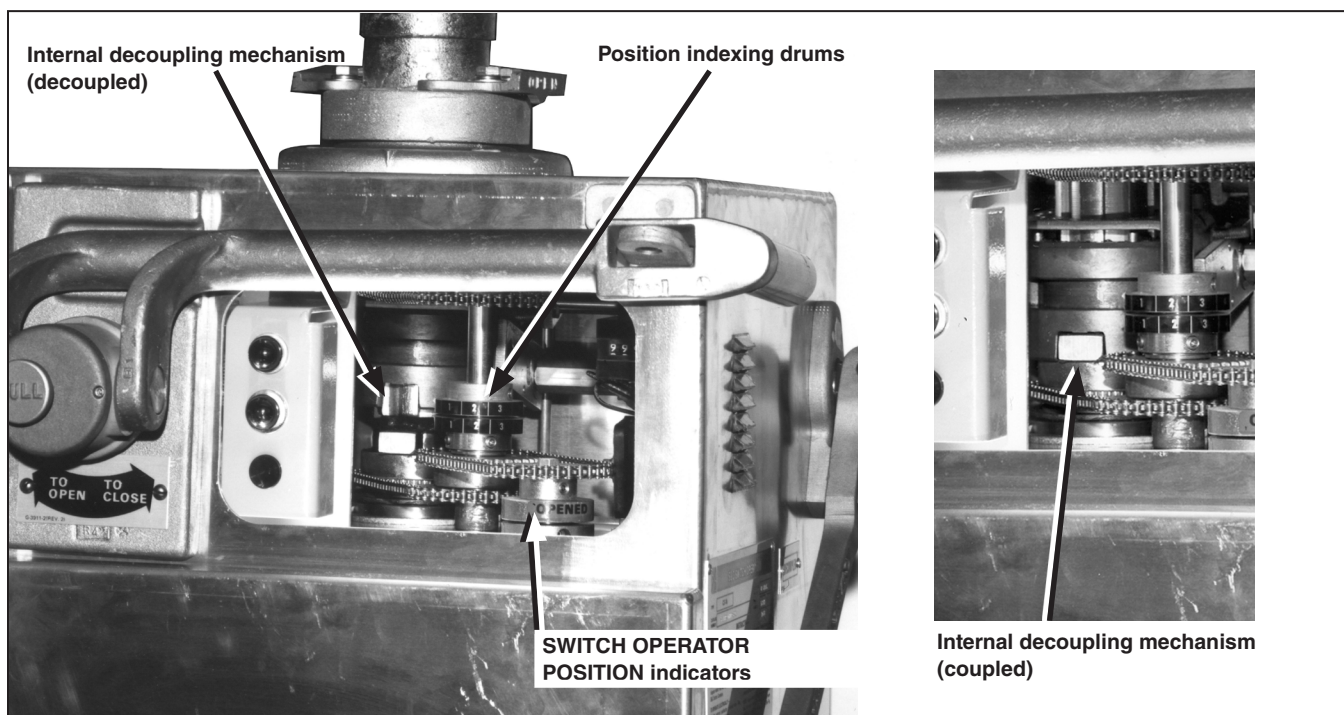

Figure 9. Views of the switch operator through the observation window.
Visual inspection, through the observation window, will verify whether the internal decoupling mechanism is in the **Coupled** or **Decoupled** position. See Figure 9 on page 16.
- STEP 1.** Manually operate the switch operator to bring it to the same **Open** or **Closed** position as the Alduti-Rupter Switch. The SWITCH OPERATOR POSITION indicator, seen through the observation window, will show when the approximate **Open** or **Closed** position has been attained. See Figure 9. (The position indicator for the Alduti-Rupter Switch, located on the output-shaft collar of the switch operator, will be aligned later.)